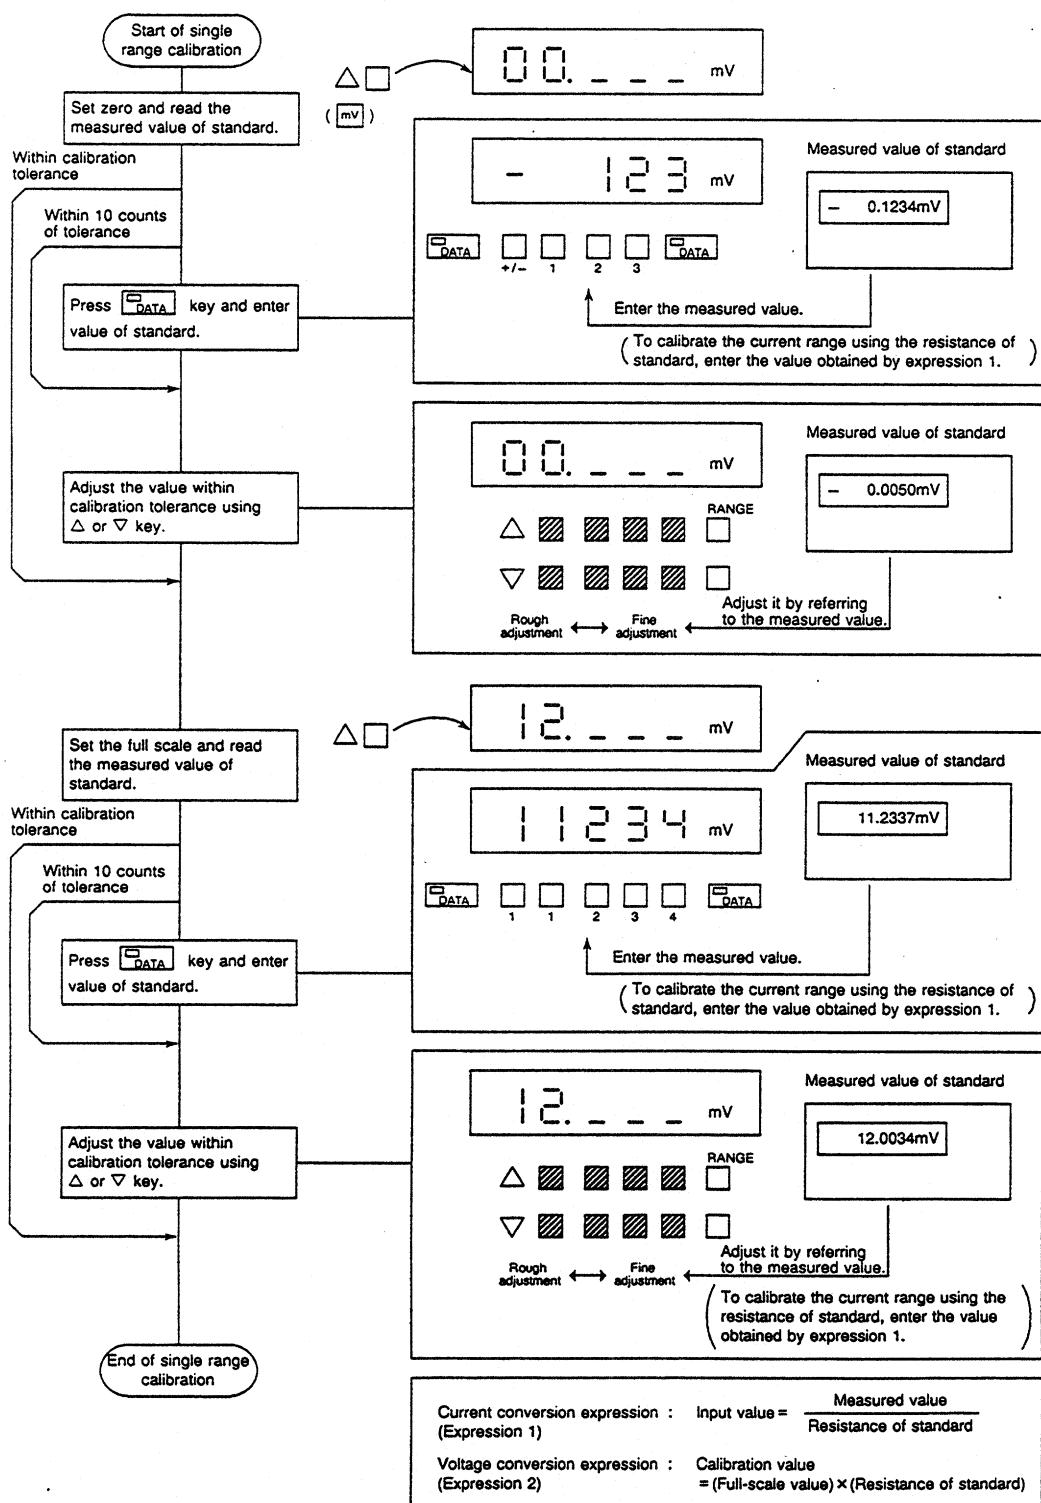

Figure 5-2 Calibration of A Single Range using R6142
- ⑤ Select the calibration range using the Δ or ∇ key, and set the standard as defined on Table 5-5.
- ⑥ Press the **[OPERATE]** key to light its LED. (OPERATE ON)
- ⑦ Calibrate and check the parameters using the Δ or ∇ key and **[+]** and **[]** keys in the sequence of "+ Zero" and "+ Full scale as shown in Figures 5-2 and 5-3.
- ⑧ Press the **[OPERATE]** key to turn off its LED. (OPERATE OFF)
- ⑨ Repeat Steps ⑤ to ⑧ to calibrate the range between the setup functions.
- ⑩ Turn off the EXT CAL switch on the rear panel, and press the **[STEP]** key.
- ⑤ Select the calibration range using the Δ or ∇ key, and set the standard as defined on Table 5-7.
- ⑥ Press the  **OPERATE** key to light its LED. (OPERATE ON)
- ⑦ Calibrate and check the parameters using the Δ or ∇ key and  **+** and  **-** keys in the sequence of "+ Zero" and "+ Full scale" as shown in Figures 5-2 and 5-3.
- ⑧ Press the  **OPERATE** key to turn off its LED. (OPERATE OFF)
- ⑩ Turn off the EXT CAL switch on the rear panel, and press the  **STEP** key.